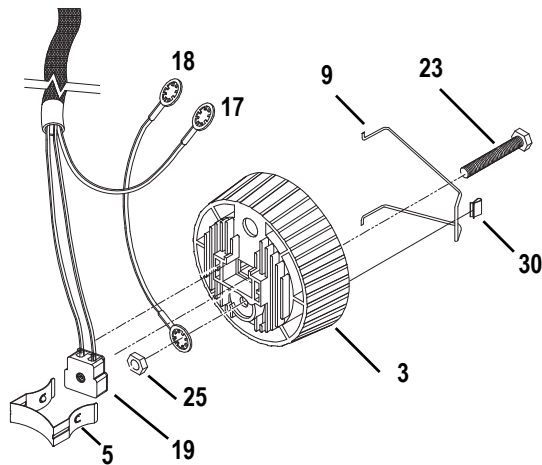

Figure 4
- Step 3: Insert the bolt (23) through the light baffle socket casting (3). See Figure 4.
- Step 4: Install the green ground wire assemblies (17 and 18) on the bolt (23) with the prongs on the crimped connectors toward the casting. Run both wires through the indent in the lip around the bolt hole. Secure with nut (25) and tighten securely (60 inch pounds).
- Step 5: Place the socket assembly (19) into the light baffle socket casting (3). Be sure it is well seated.
- Step 6: Install the lamp retainer spring (5). The lamp retainer spring secures the socket. Insert the spring one end at a time, making sure the rectangular slot in each side of the spring seats on the corresponding tab in the casting. See Figure 4.